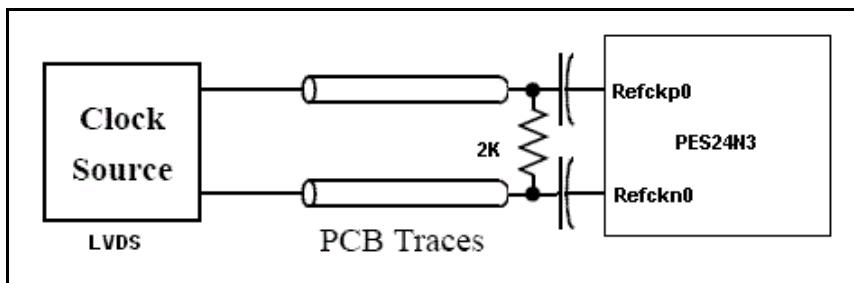

Figure 5 LVDS Clock Source Circuit Implementation
- For an LVDS clock source, a 2K common mode resistor must be included between the clk_p and clk_n signals in front of the decoupling capacitors. See Figure 5.